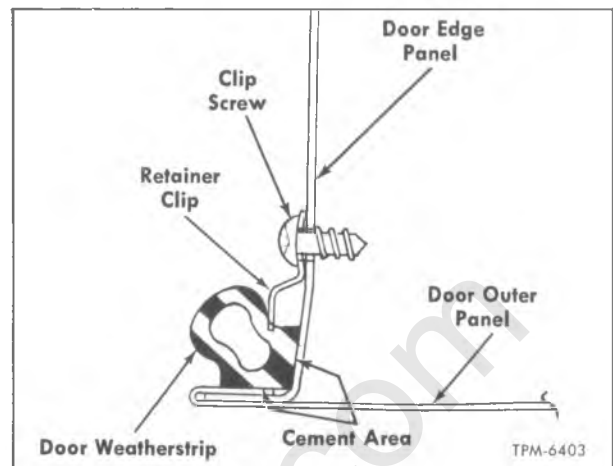

Figure 26—Door Weatherstrip Installed
1. Remove screw-retained clips from weatherstrip around perimeter of door. Figure 26 shows view of weatherstrip installed at retainer.
5. Install screw-retained clips (fig. 26) to door and weatherstrip. Tighten clip screws firmly but be careful not to tear weatherstrip.
A single grilled intake at front center of cab (fig. 26) permits outside air to enter plenum chamber located between the cab outer and inner panels. From the plenum chamber, outside air can be directed into cab interior through opening at front of driver and through opening at front of passenger. When heater is used, the outside air enters heating system through the right side opening.